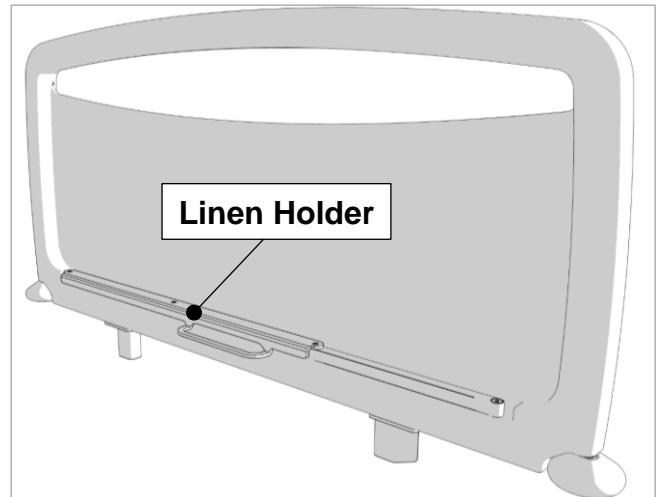

Figure 8.7
8. The headboard and footboard are not identical. The footboard can be denoted by the inclusion of the Linen Holder as shown in Figure 8.7.